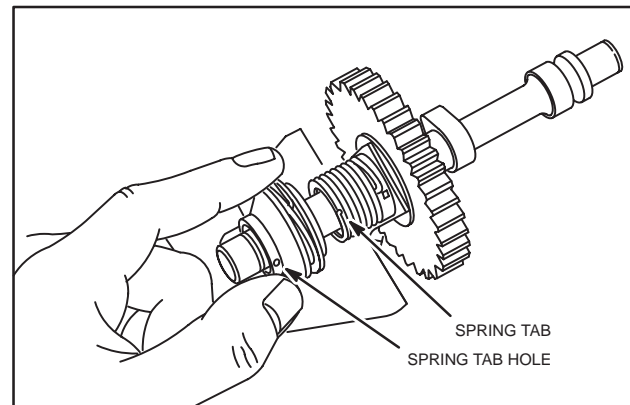

Fig. 162 – INSTALL CLUTCH SLEEVE
3. Depress spring tab, if required. When clutch sleeve is in place, spring tab should be in sleeve hole, Fig. 162.